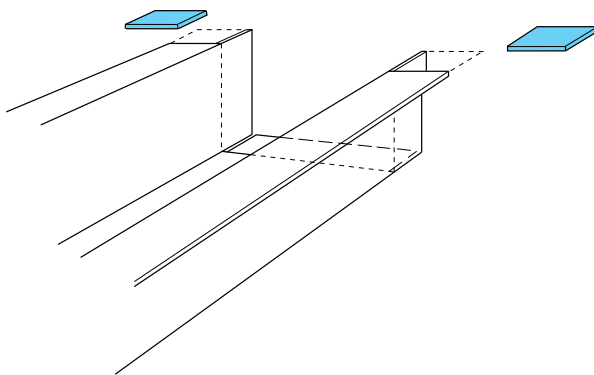

Fig. 1-23 — Create Tabs on the New Rail Section
- Cut and remove approximately 35 mm (1-5/16 in) of the flanges on the service-rail. Cut a 5 mm (1/4 in) gap approximately 35 mm (1-5/16 in) along the corners of the service rail to create tabs (Fig. 1-23).